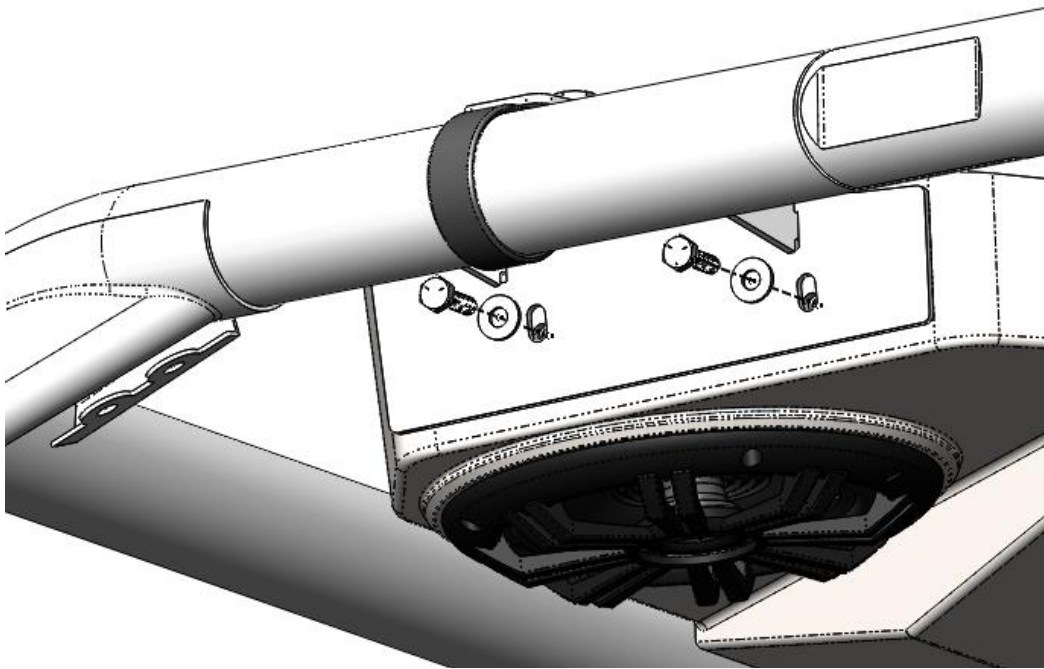
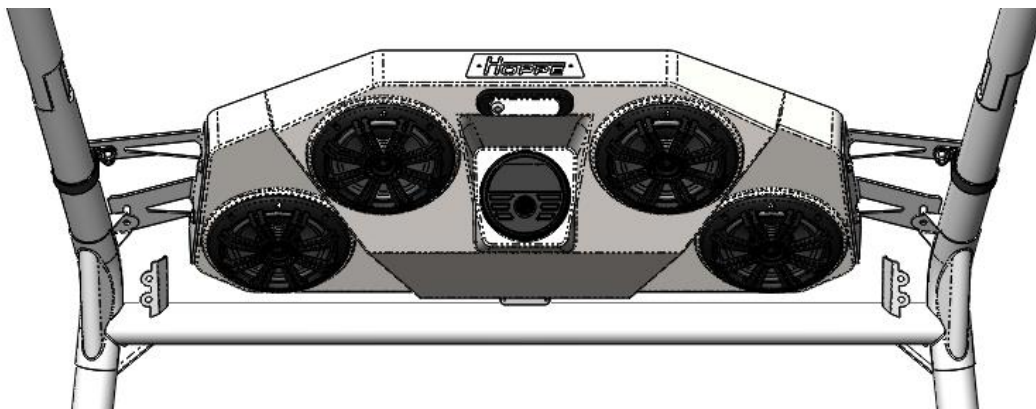

Figure 13: Install the 1/4\"-20 bolts and washers to mount the Audio Mini to the brackets.
Figure 14: Loosely install the sound system on the mounting brackets.
14. Hang the *Audio Mini* off-road sound system on the brackets using the supplied $\frac{1}{4}$ "-20 x 1" bolts and washers (loosely tightened). See Figure 13 and Figure 14.